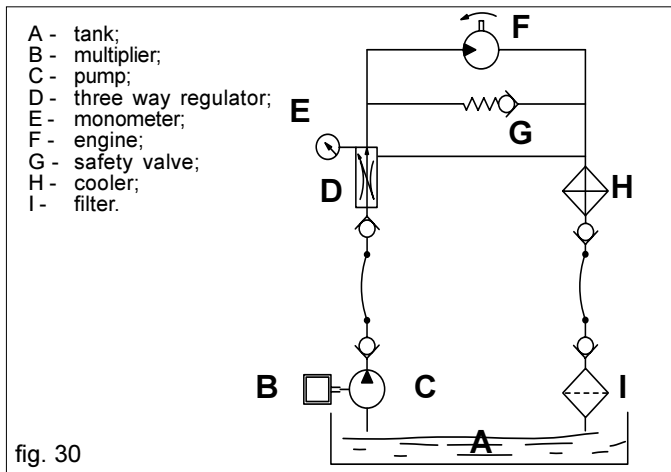

fig. 30
- Oil supply: follow the data in the table in Fig. 30.
With the engine off and the tractor immobilized, connect correctly the quick-couplings. Clean and grease the tractor power take-off. (A Fig. 30). Connect the multiplier (B Fig. 30) to the machinery power take-off as shown in figure 30. Make sure it is correctly coupled, block the rotation of the multiplier with the chains supplied (C Fig. 30). **Check the multiplier oil level and top up if necessary (ESSO SAE W80-90).** Start the tractor and run the system at idle for a few minutes, bringing constant pressure to the entire circuit in order to avoid instability of the blower. Bring the blower up to the number of revolutions that corresponds to the working conditions (Tabella 5).